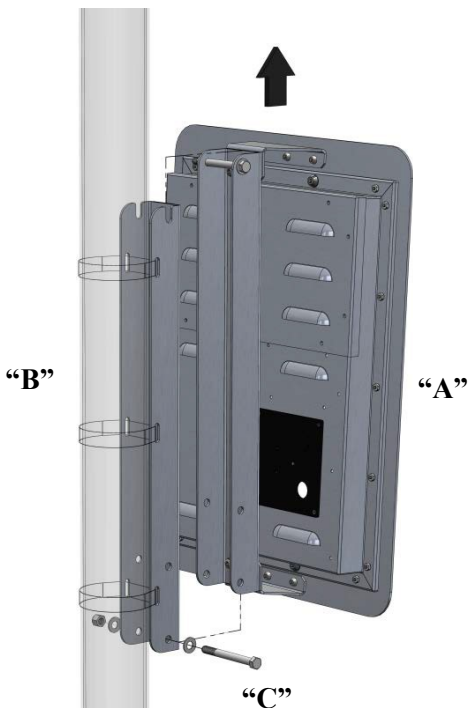

Figure 5-2. Connecting DFB Sign to Bracket
Assemble the DFB sign (A) to mounting bracket (B) as shown in Figure 5-2. *Be careful to keep fingers clear of the brackets as they come together since they may form a pinch point.* **Do not over-tighten the 2 mounting bolts (C).** They act as a pin, and are not intended to compress the mounting bracket. Take care when handling the edges of the sign and bracket, especially when attaching the sign onto the bracket.